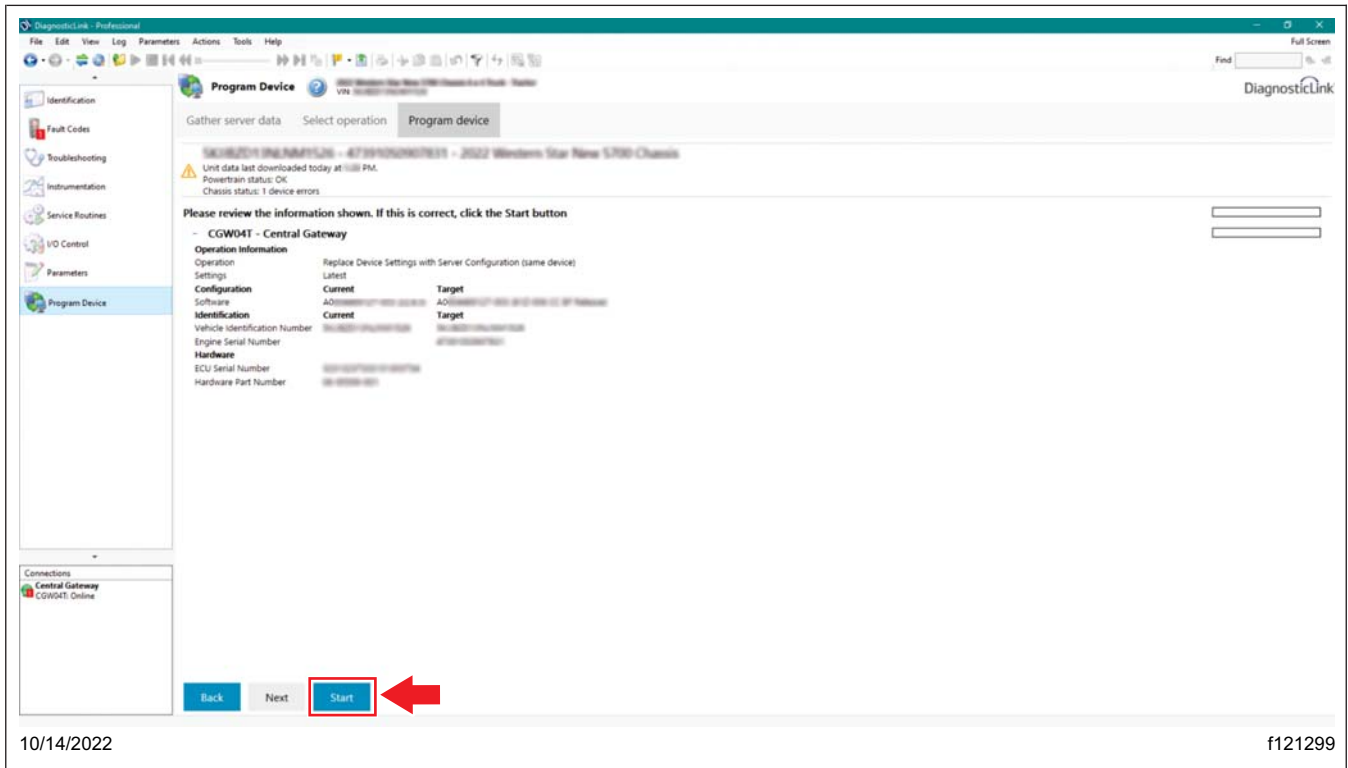

Fig. 16, Starting to Flash CGW04T
11.4 Select 'Start' to start flashing the CGW04T. See Fig. 16.